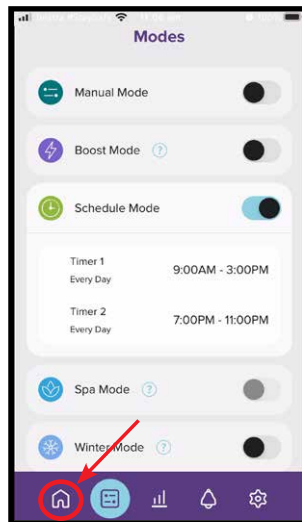

Figure 9.39
- You can now return to the dashboard by using the home button (refer Figure 9.39).